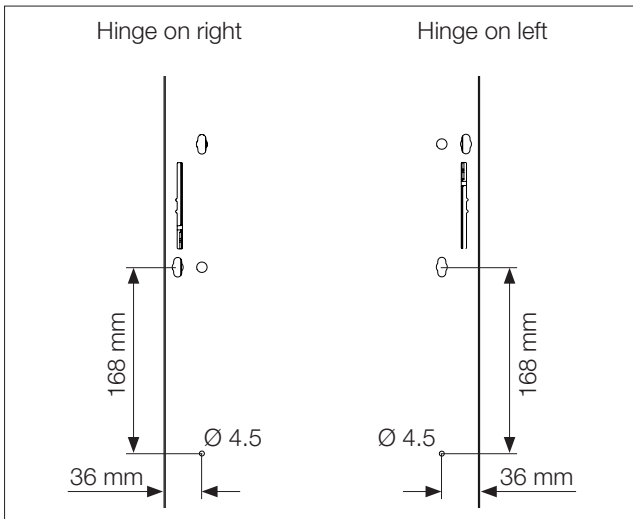

Fig. 5: Drilling the holes
- Drill suitably sized holes in the required position in the sheet steel door, depending on the position of the hinge (fig. 5).